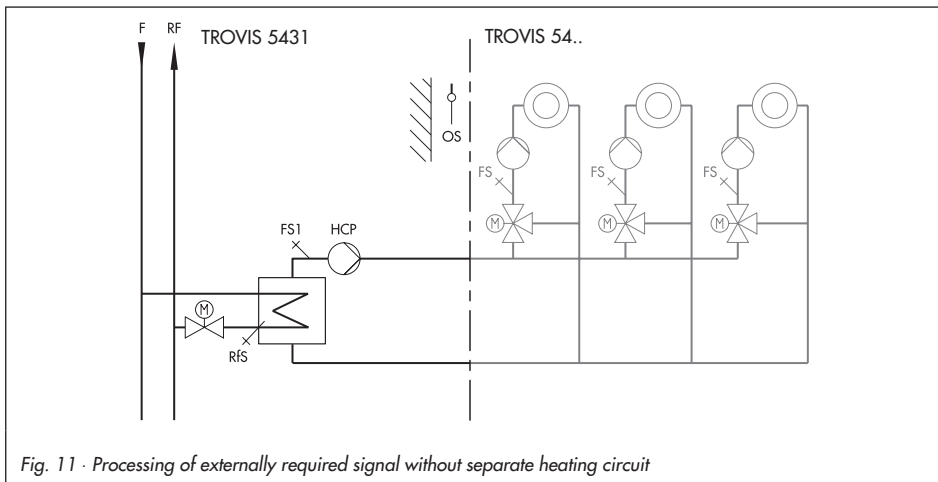

Fig. 11 · Processing of externally required signal without separate heating circuit
- ▶ Without outdoor sensor (CO1 F07-0): The TROVIS 5431 Heating Controller exclusively controls the external request for downstream controllers as shown in Fig. 11. During this operation, you cannot set any times of non-use. The set point is set in accordance with the 'request for externally required signal' between maximum and minimum flow temperature. Input signal values smaller than 1 V (12 °C) mean no external request, the primary valve is closed and the circulation pump is deactivated.